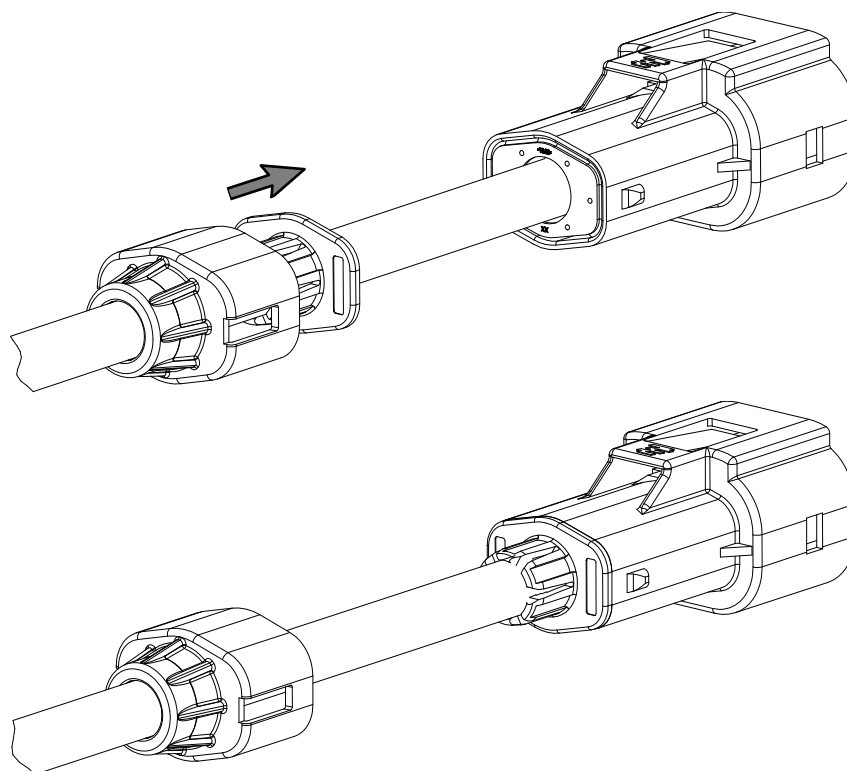

Figure 17
16. Slide the collet forward on the cable until it stops against the outer housing as shown in Figure 17.